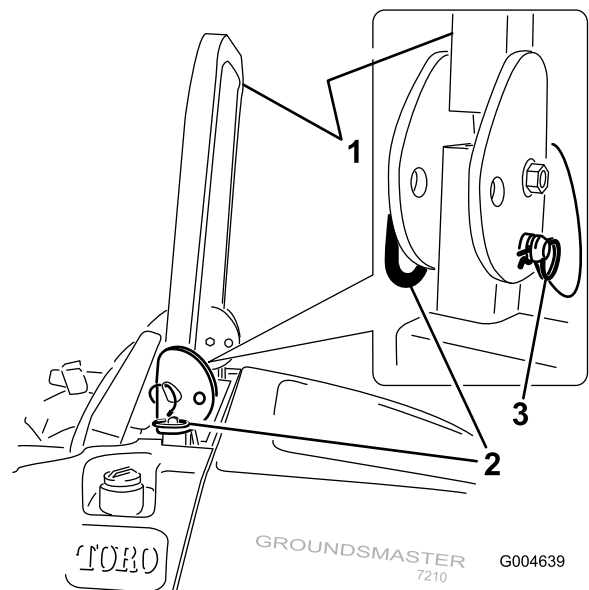

Figure 10
1. To lower the roll bar, remove the hairpin cotters, push the roll bar forward against the springs, and remove the two pins (Figure 10).
3. Install the two pins and secure them with the hairpin cotter pins (Figure 10).
4. To raise the roll bar, remove the hairpin cotter pins and remove the two pins (Figure 10).
5. Raise the roll bar to the upright position and install the two pins and secure them with the hairpin cotter pins (Figure 10).